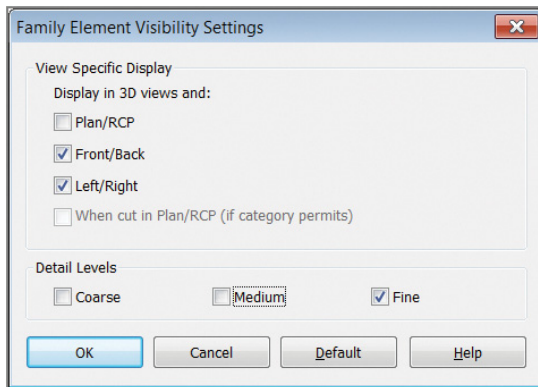

FIGURE 6.7 Editing levels of detail for hardware
3. The hardware shows up at all levels of detail (Coarse, Medium, and Fine). Change the settings so that it *only* shows up at a Fine level of detail. Do the same for the hardware on the other side of the desk (Figure 6.7).